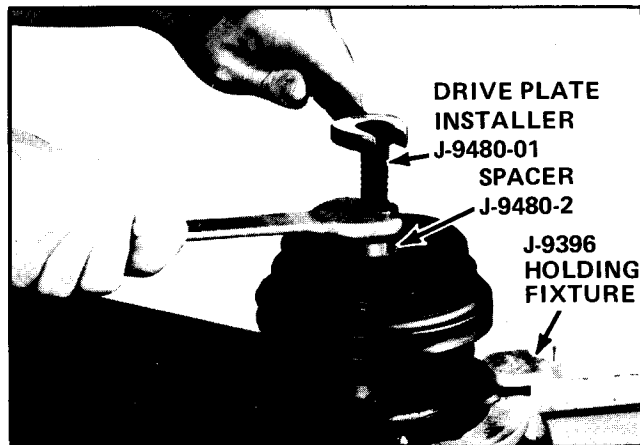

Figure 47—Installing Drive Plate
3. Position the Drive Plate Installer J-9480-1 on the threaded end of the shaft. The Spacer J-9480-2 should be in place **under** the hex nut on the tool. This tool has a left hand thread on the body. (figure 47).